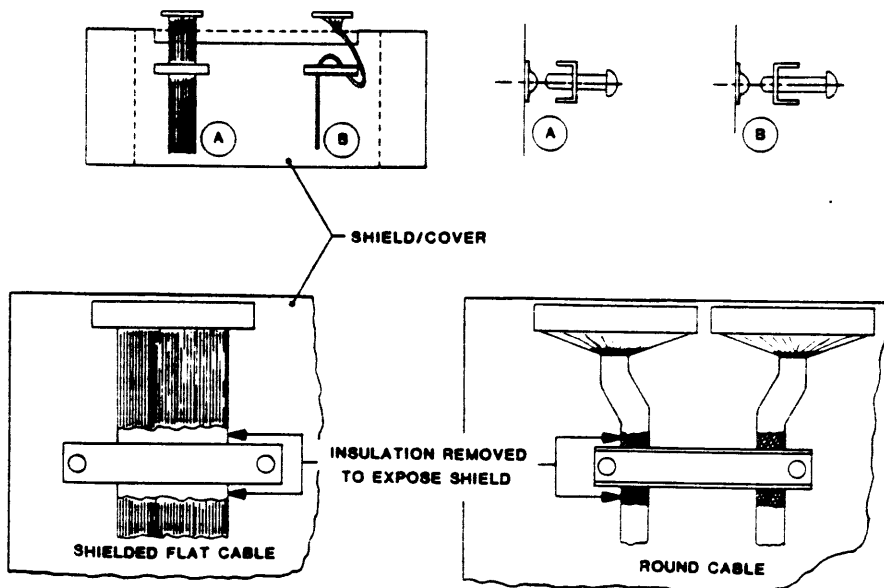
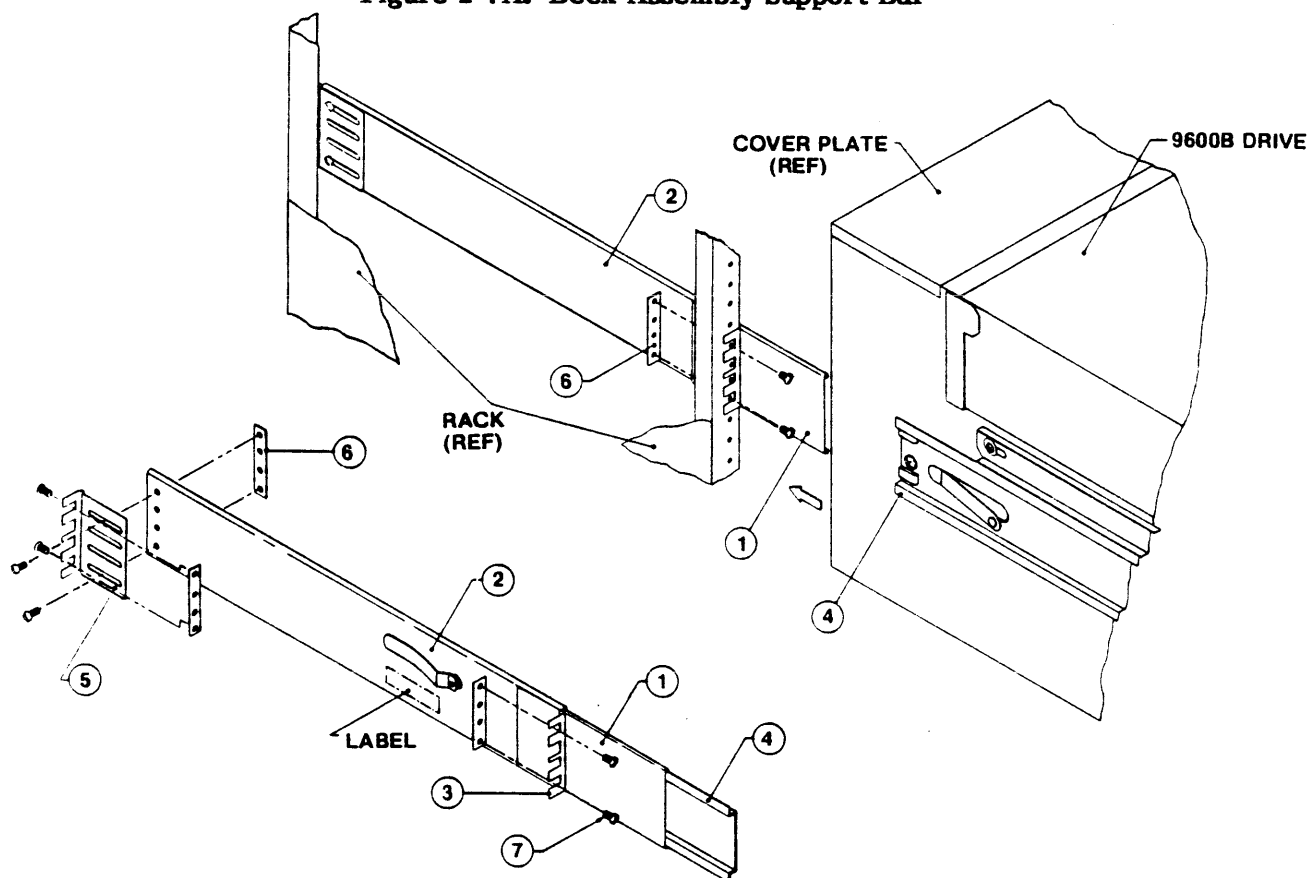

Figure 2-3. Grounding Cable Clamp Details
Figure 2-8. Track Subassembly
Recommended connectors and cables are as follows: - Daisy chains may optionally require a Cable Connector Adapter (See Figures 2-3 and 2-5).
A. Install one of the Track Assemblies (Figure 2-8) on either side of the 19-inch Rack as follows:
1. Using the 10-32 Slotted Screws (7) and Nut Plates (6)* provided, loosely assemble an Adjustable Mounting Bracket (5) to the rear of the Right Track Assembly.
3. Aligning the bottom of the Fixed Mounting Bracket (3) at the 2-inch mark on the front of the 19-inch Rack, and using the 10-32 Screws (7) provided, mount the Fixed Mounting Bracket (3) to the front of the 19-inch Rack, and mount the Adjustable Mounting Bracket (5) (loosely attached to the rear of the Center Track) to corresponding holes in the rear of the 19-inch Rack. Level the Track and tighten all Screws.
- E. Remove about an inch of insulation from each Interface Cable at a point where the Cable will pass under the Grounding Cable Clamp(s). This will expose the cable shield. Run the Interface Cables under the Cable Clamp(s) as illustrated in Figure 2-3. Tighten the Clamp(s).